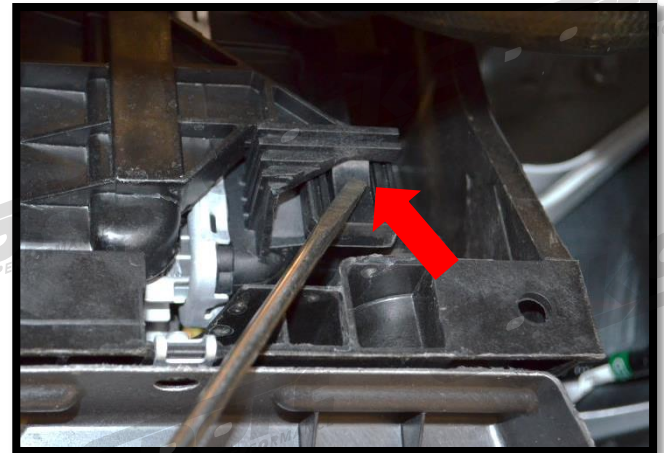

Figure 1k
- o) **Remove the radiator fan shroud**. Push in the locking tabs on both sides of the radiator and push the shroud upward to unhook it (**Figure 1k**).
o) **Remove the radiator fan shroud.** Push in the locking tabs on both sides of the radiator (red arrow in Figure 1k) and push the shroud upward to unhook it.